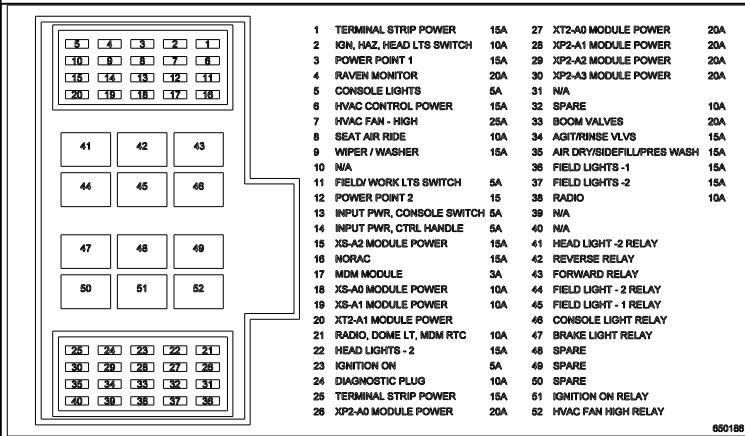

FIG 125-1
**CIRCUIT BREAKERS & FUSES**– The STS Combo has circuit breaker and fuse systems in various locations. Under the right hand console (fig. 125-1) for the cab functions, under the cab (fig. 125-2) for the light functions, and the engine compartment (fig. 125-3) for the engine functions. The combo unit has an electrical box (fig. 125-4) that houses a 20 amp circuit breaker, ten 12V micro relays, and a terminal strip.